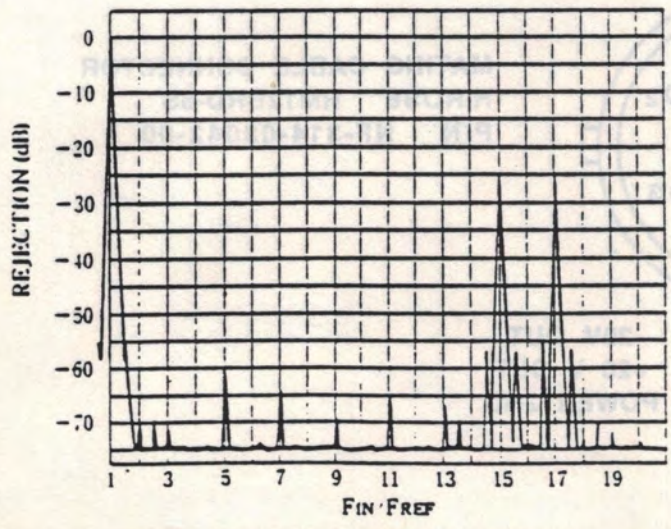

Figure 2.4 HARMONIC REJECTION
- Harmonic Rejection: Typically greater than 55 dB through the 14th harmonic (See Figure 2.4)